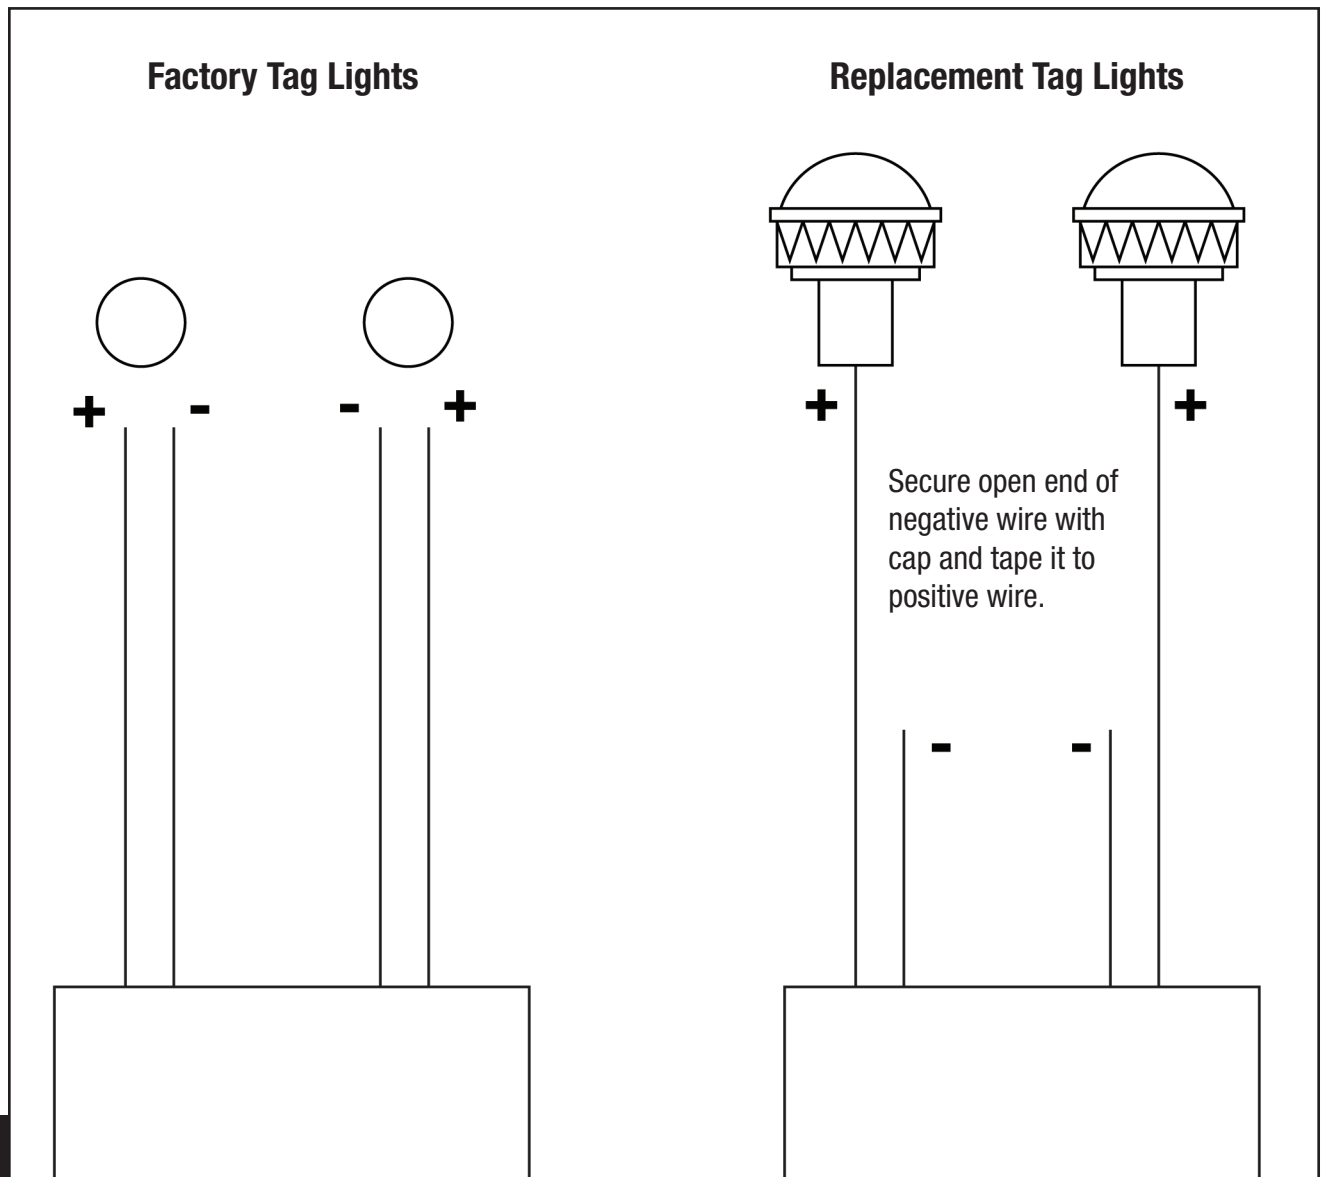

Fig 3
3. Factory tag lights must be cut and replaced with replacement tag lights (**Fig 3**).